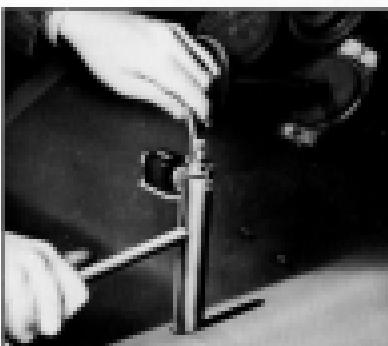

Fig. 353. Adjusting Bands with Tool J-3681.
1. Using band adjusting tool J-3681 loosen band adjusting screw lock nut. (Fig. 353)